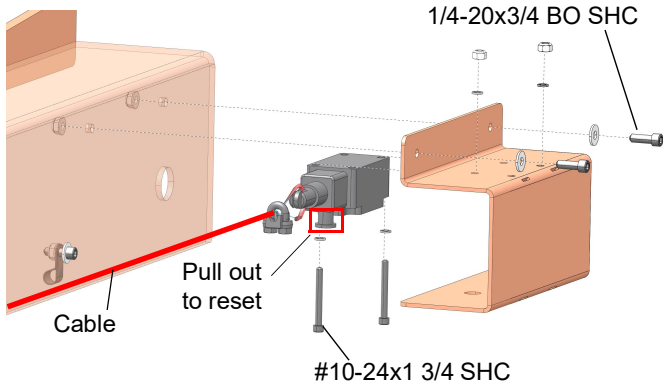

FIG. 3-15
3. Install the safety switch, cover, and cable as shown in FIG. 3-15.